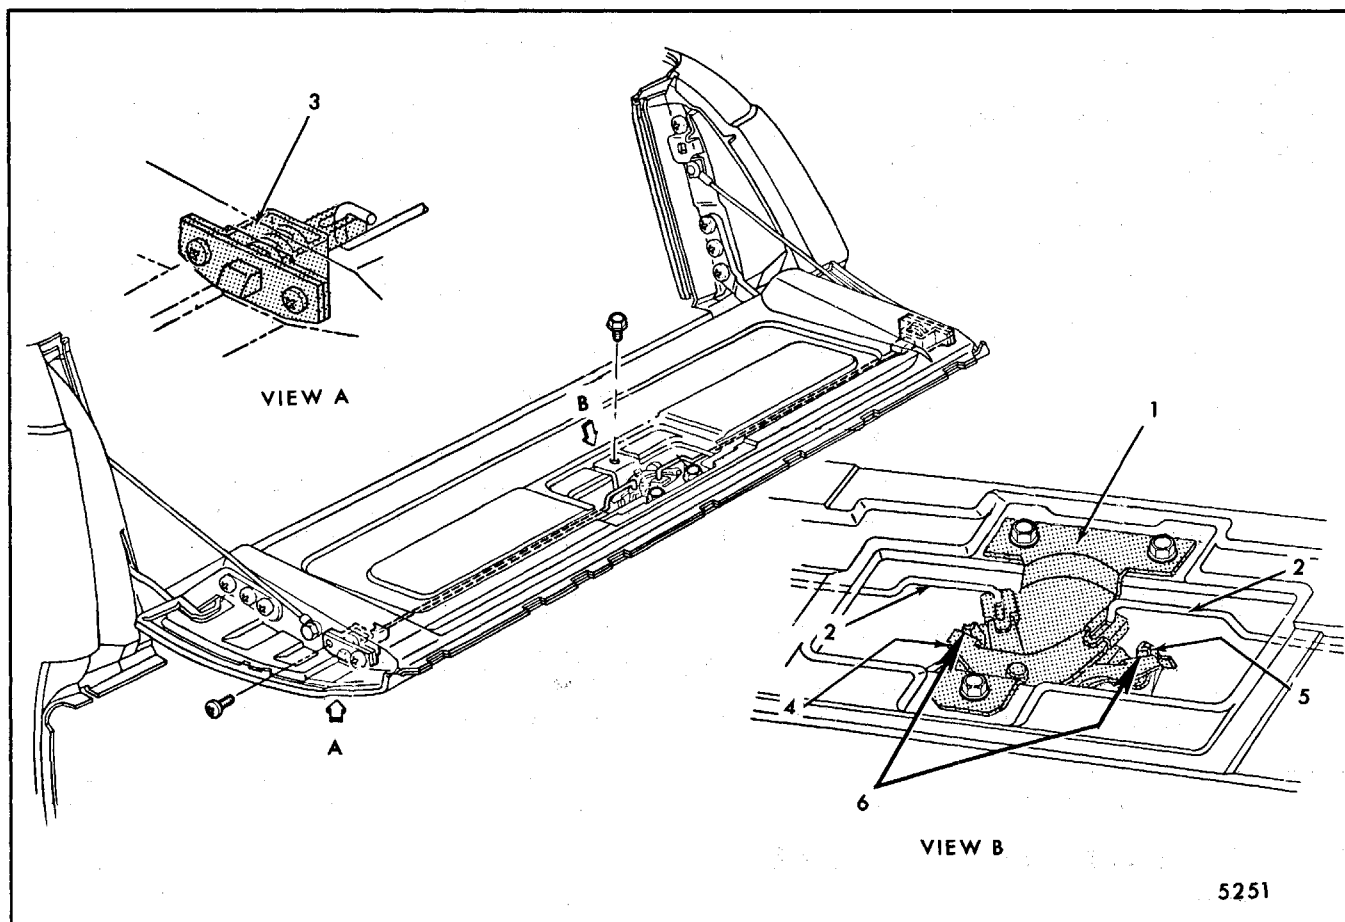

Fig. 7-124-Tailgate Hardware Installed
remote assembly by sliding rod attaching clips out of engagement (Fig. 7-124).
To assure simultaneous action of right and left latches, loosen remote control assembly bolts, position assembly so that remote arms contact latch rod rotors and tighten remote control bolts (Fig. 7-124).
2. Disengage remote control-to-latch rods at remote control assembly (Fig. 7-124).
3. Remove bolts securing latch assembly to tailgate and withdraw latch with control rod attached from gate. Remove control rod from latch, if required, as a bench operation (Fig. 7-124).